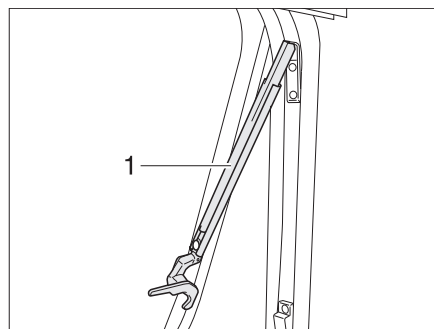

Fig. 72 Hinged window with automatic hinges, open
- Open the hinged window to the desired latched position. The automatic hinge (Fig. 72,1) locks in place automatically.